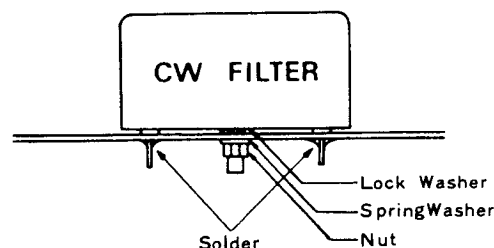

Figure 4
- (3) Refer to Figure 4, and install the jumper wire shown, between the AUX terminal and the terminal of the "BAND" column in Table 6, on bandswitch wafer S2D. Note that this is a "double" wafer; S2C is the side facing the front of the transceiver, while S2D is the rear face of this wafer.
- (4) Normally, no change in the tank coil tap will be required, as inspection of Table 6 will verify. However, if harmonics or other non-satisfactory transmitter performance characteristics result, use linear interpolation of the values in Table 6, "Tank Coil Tap" column. Note that this will affect the performance in the original amateur band, so beware.